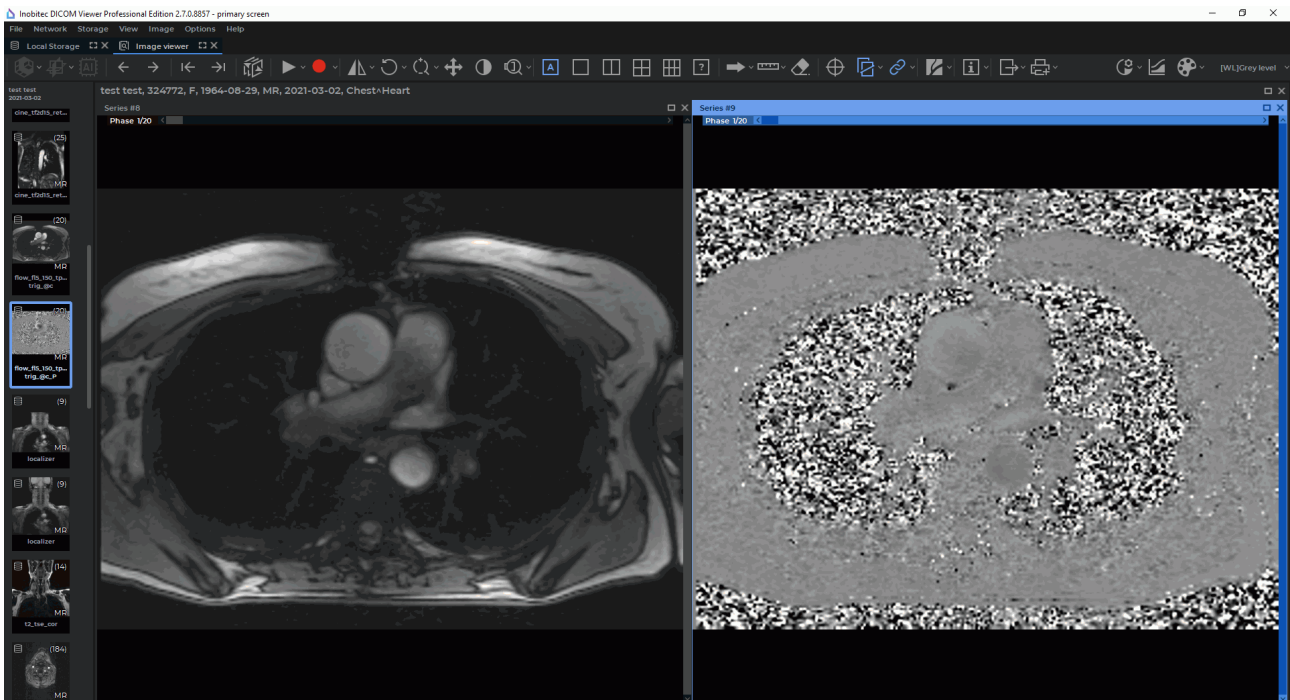

Figure 2.43: The windows for MAG MRI and PC MRI series have been opened in the flat image viewer tab
1. Open a suitable magnitude MRI (**MAG MRI**) series and the respective phase-contrast MRI (**PC MRI**) series in the flat image viewer window (Fig. 2.43). Make sure that the images have been sorted by number and phase (for details see Section 2.1). Each pair of series (**MAG MRI** and **PC MRI**) that can be used for blood flow analysis represents a separate slice.